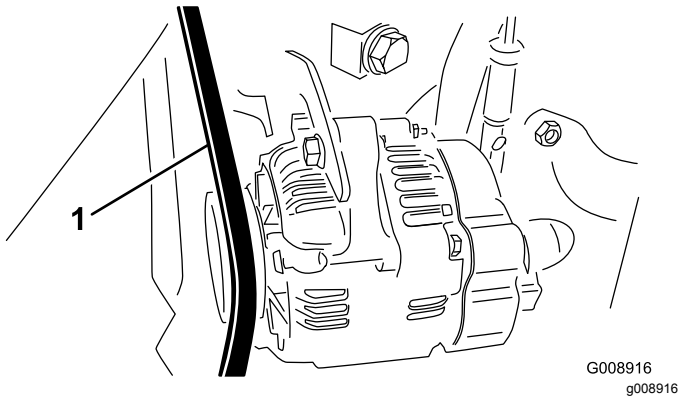

Figure 70
2. Check the tension by depressing the alternator/fan belt midway between the alternator and crankshaft pulleys with 30 N·m (22 ft-lb) of force (Figure 70).